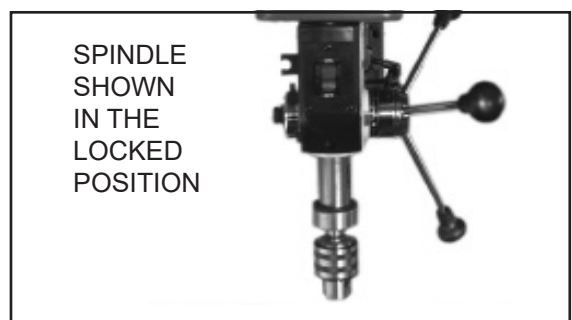

Figure 26
**NOTE:** Figure 26 shows the spindle in the locked position.